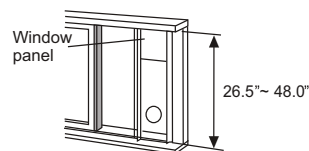

Fig.11
2. Adjust the length of the slider kit according to the height of the window. Place slider kit against foam seal. Fig.11.